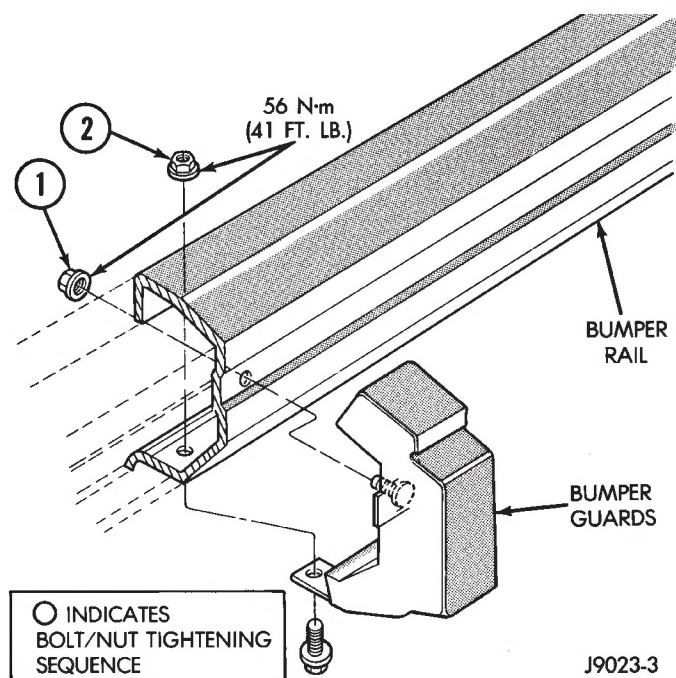

Fig. 15 Bumper Guard Removal/Installation—XJ Vehicles
(7) Remove the bumper end caps (Fig. 14) and bumper guards from the bumper (Fig. 15), if necessary.